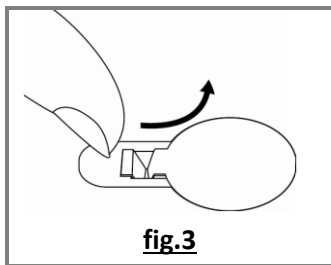

fig.3
- b. Remove the cover of the battery compartment by pulling out the black plastic tab (**fig.3**).